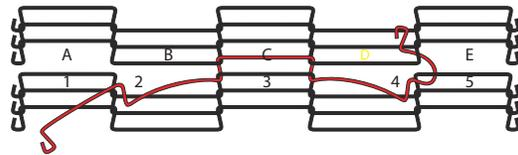

Figure 4
2. Bend the wire toward the center and insert around the Z-bend next to the center space (Space D on Figure 4).